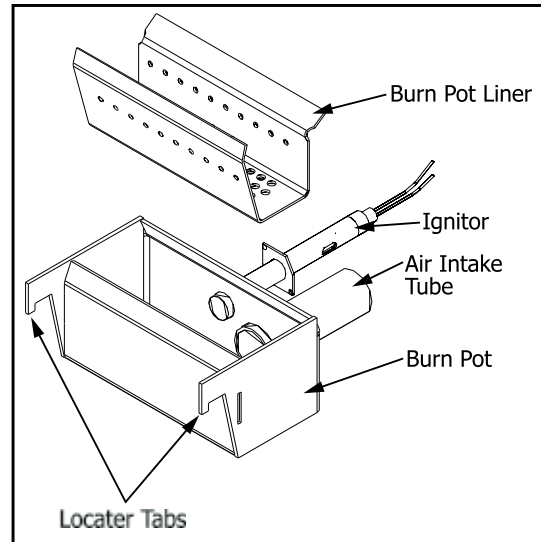

Figure 9: Burn Pot Assembly
Cleaning of the burn pot and liner must only be done when stove is cold. To remove the burn pot and burn pot liner, open the door using the door handle provided (located on the right-hand side of the stove). Swing the door open. Lift the liner from the burn pot. Lift the burn pot from the firebox by gently lifting up the front of the burn pot, then sliding the assembly from the air intake tube and the ignitor cartridge. See figure 9.
This is the 'pot' where the pellets are burned. Every two (2) to three (3) days (when the unit is cold), remove the burn-pot liner from the stove and inspect it to ensure proper air flow through the liner. **Failure to keep the liner clean may cause a build up of fuel past the burn pot liner and up the drop tube. This will cause the auger to jam and may result in pellets burning in the drop tube and hopper.** Using a metal scraper, remove material that has accumulated or is clogging the liner's holes. Then dispose of ashes from the liner and from inside the burn-pot. Place the burn-pot back into the stove, making sure that the pipes are properly inserted into the burn pot and locater tabs (see figure 9) are properly seated in the locater holes. Place the liner back into the burn-pot, making sure that the ignitor hole in the liner is aligned with the ignitor tube. Push the liner up against the ignitor tube.